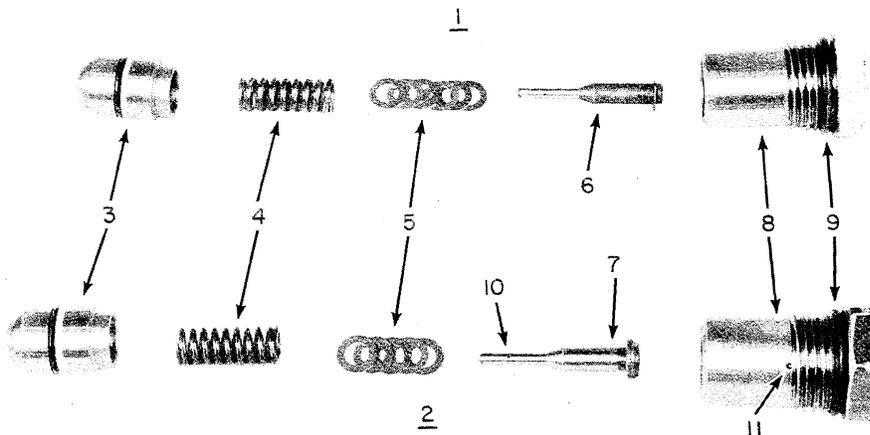

FIGURE 27
12. Figure 27 shows the two similar style main system relief valves used in the small frame loaders.